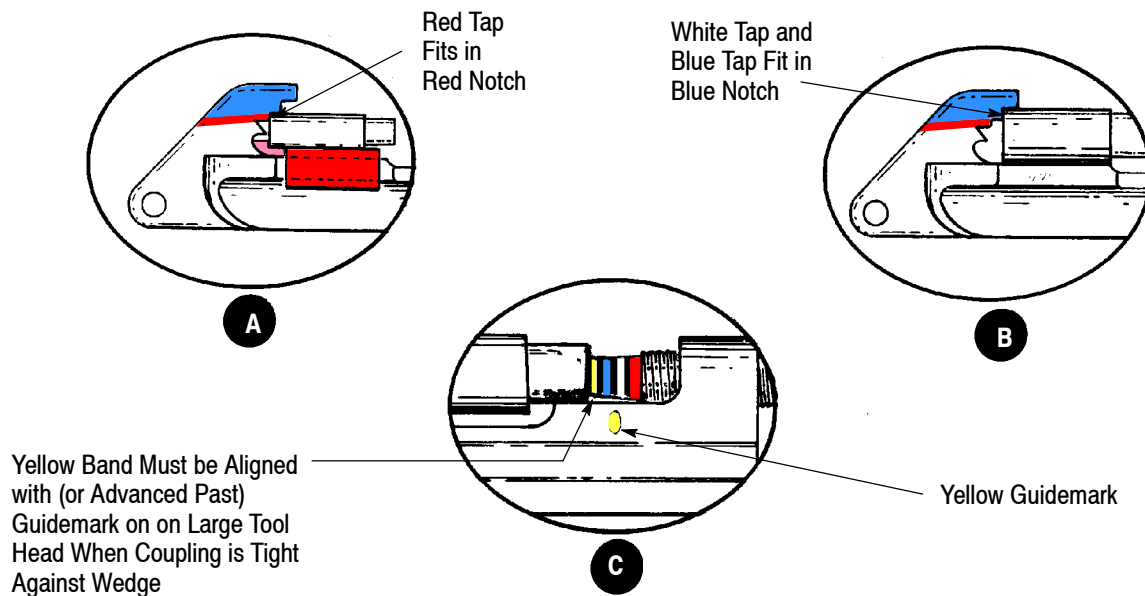
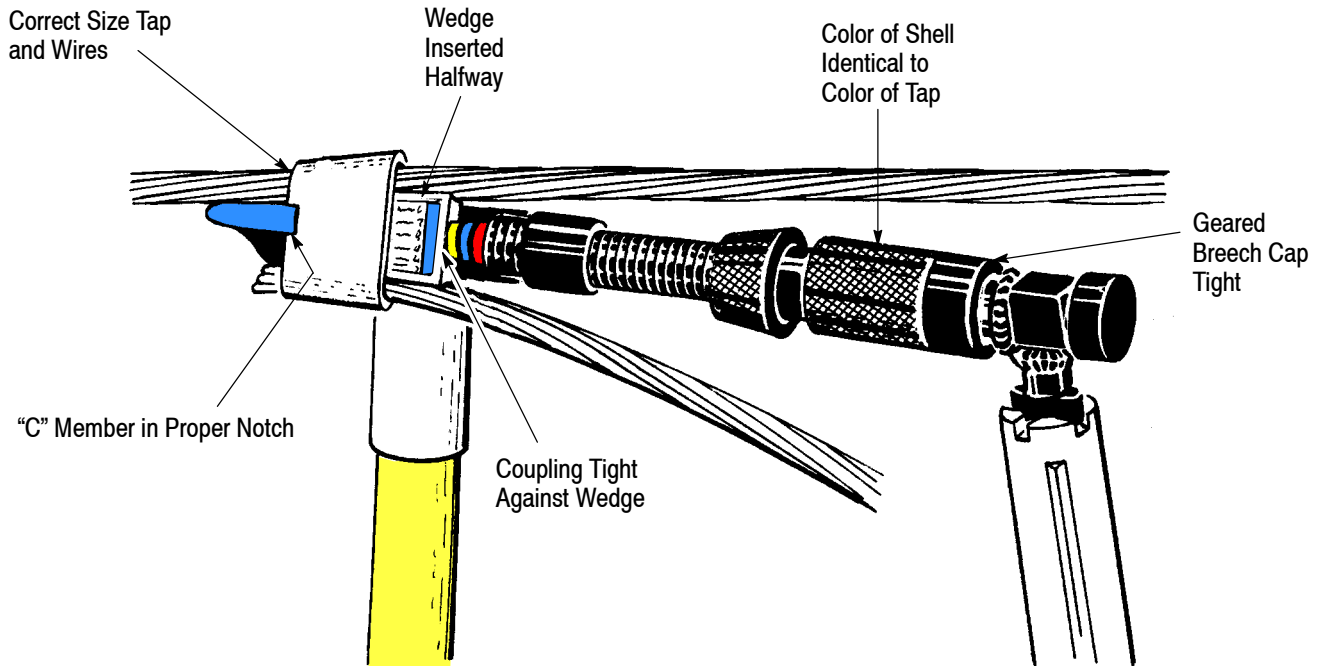

Figure 21
Figure 22
2. Position the “C” member in the correct notch in the tool head (Figure 21). Red tap must be positioned in lower (red) notch. White or blue tap must be positioned in outer (blue) notch. Yellow tap must be positioned under notch on large head. Correct positioning is necessary to ensure proper lancing of wedge and good connection. Turn shotgun stick clockwise to move power unit against back end of wedge (Figure 22). Tool is now ready for firing.